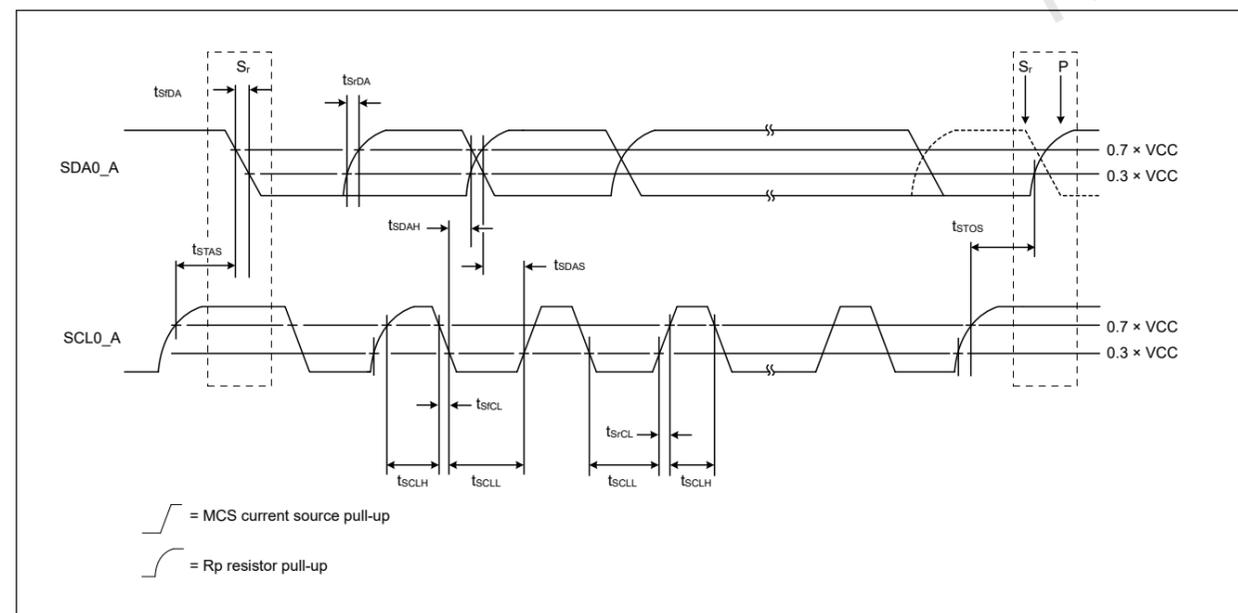

Figure 2.48 I2C bus interface input/output timing (Hs-mode)
| IIC (Hs-mode)BFCTL.HSME = 1 | SCL输入周期时间         | $t_{SCL}$            | $10 (12) \times t_{IICcyc} + 80$ | —                         | ns   | Figure 2.48 |    |